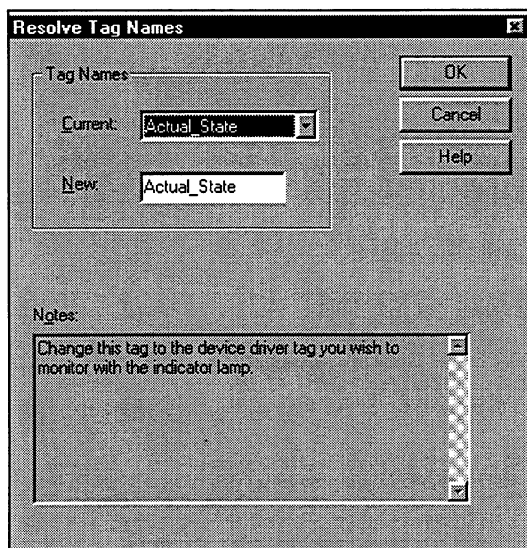

Figure 8-4. Resolve Tag Names Dialog Box
6. If the symbol references unresolved tags, the Resolve Tag Names dialog box opens, as shown in Figure 8-4. Unresolved tags are tags that reference a device data point. They are considered unresolved because device data points are not saved with the symbol.